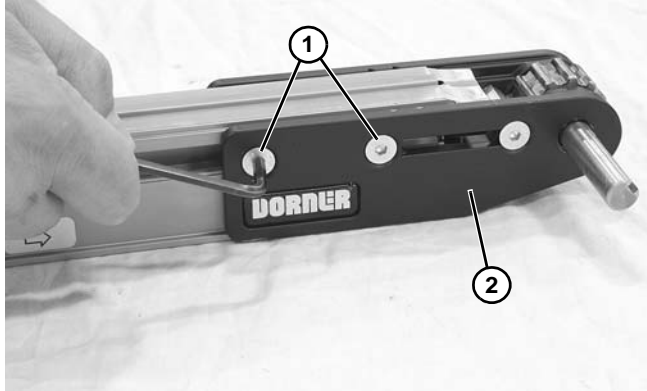

Figure 62
2. Loosen two screws (**Figure 62, item 1**) on both sides of conveyor. Remove drive tail (**Figure 62, item 2**) from conveyor.